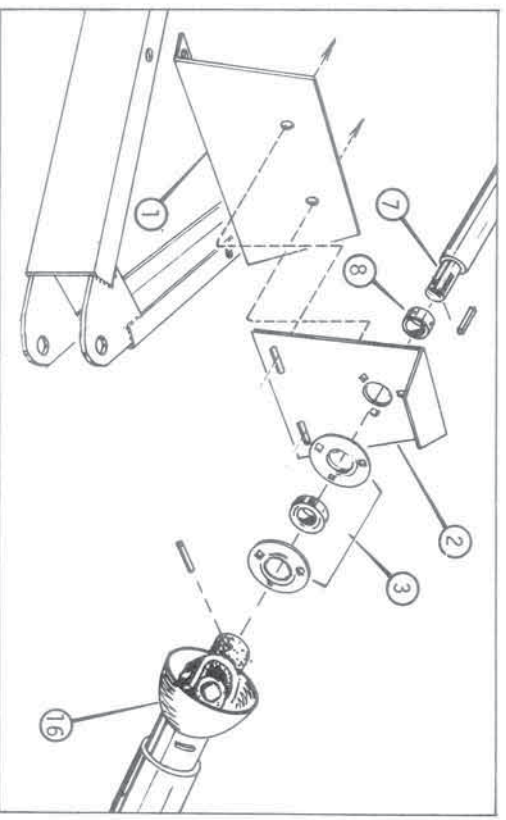

FIGURE 15
P.T.O. SUPPORT - Figure 15
## END PULLEY - PRIMARY DRIVE - Figure 15 &amp; 16